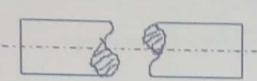

Figure 1.....
- 1 (a) Write down the drawing conventional representation given by figures 1, 2 3 and 4 shown below.